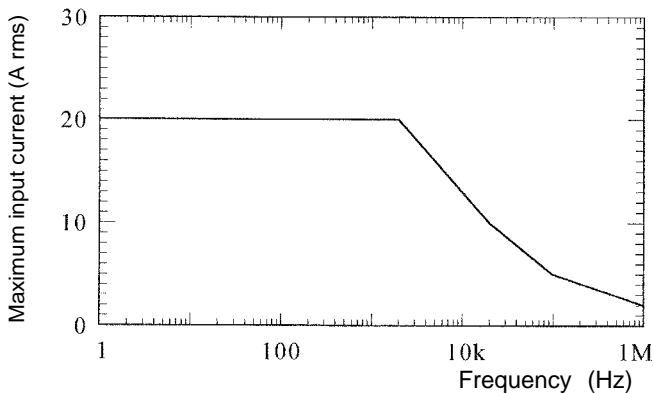

Figure 11 9274 Maximum Input Range
- ♦ Continuous maximum 20 A (see Figure 11)